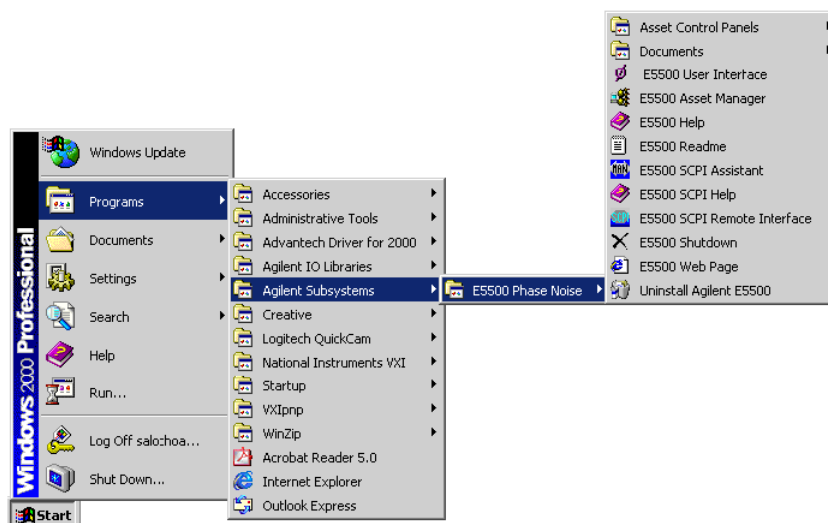

Figure 3-1 Navigation to the E5500 User Interface
- 2 Using Figure 3-1 as a guide, navigate to the **E5500 User Interface**.